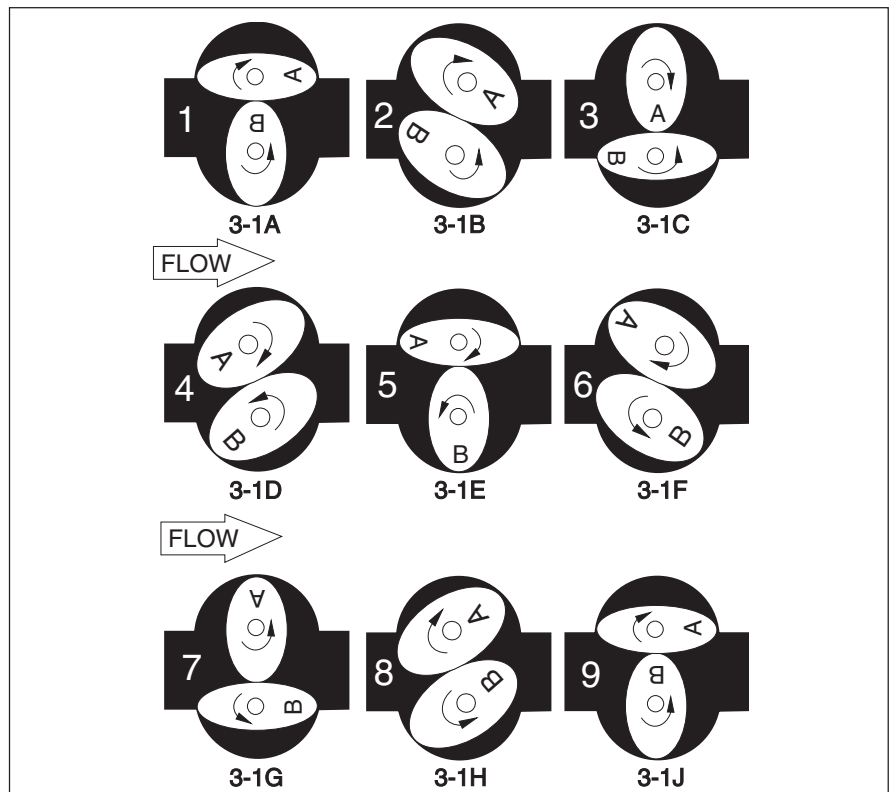

Figure 3-1 Principle of Operation.
### 3-2 Flowmeter Principle of Operation (See Figure 3-1)
**3-3 Pulse Generator Principle of Operation (See Figure 3-1)****Pulse Generator:**